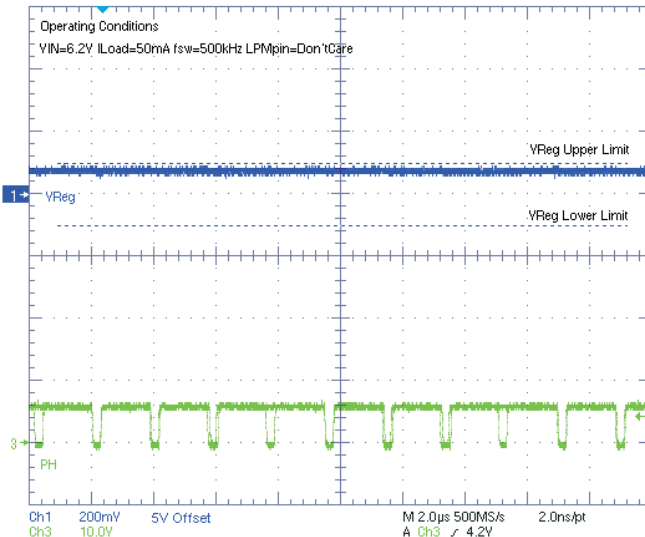
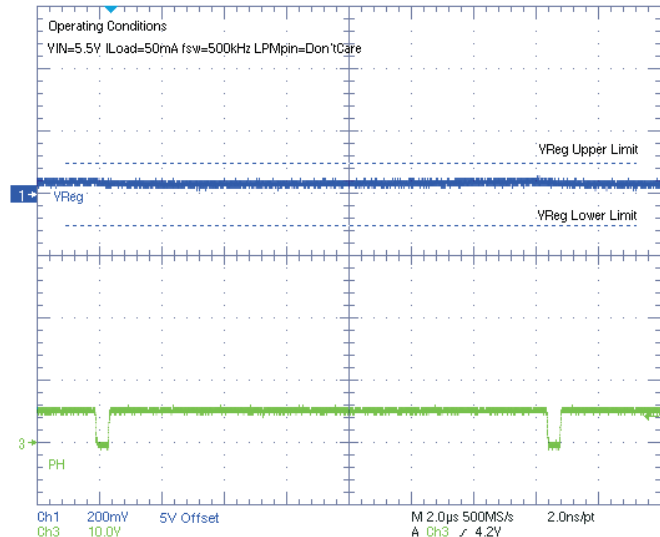

Figure 17. Active Mode CCM
Figure 18. PSM at Low VIN
- At low input voltages when V_{Reg} starts losing regulation and the OFF time (t_{OFF}) of the switching FET tends to be close to or slightly less than the minimum OFF time (t_{OFF_Min}). If OFF time is much smaller than t_{OFF_Min} , there is a risk that the part stops switching and regulation is lost until power is re-cycled with OFF time greater than t_{OFF_Min} . This mode of operation is shown in Figure 18. Comparing Figure 17 and Figure 18, pulse skipping occurs in Figure 18 but not in Figure 17 under similar output loading conditions.